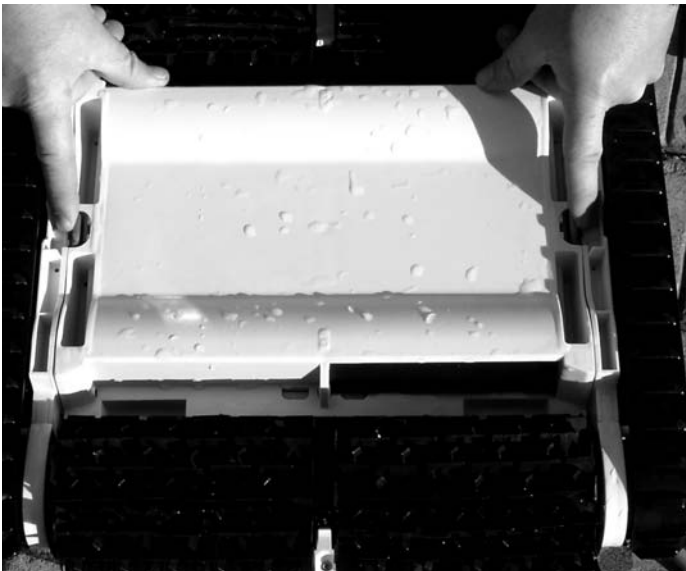

FIGURE 3
- Press the two red tabs inward towards the center of the cleaner as shown in fig. 3. Lift the bottom lid with the filter bag up and out of the cleaner.